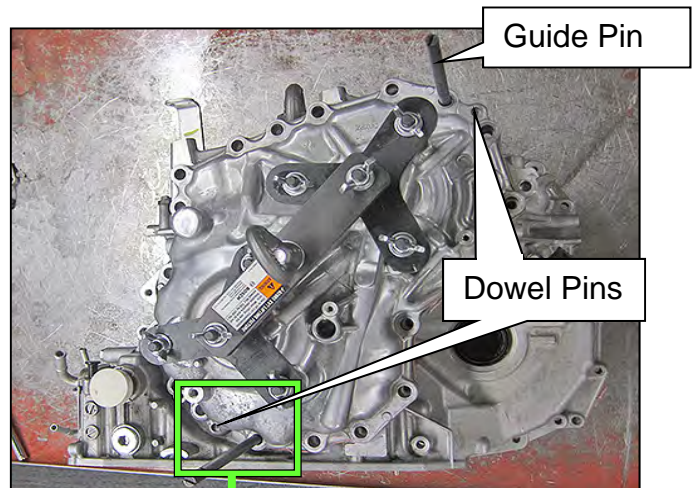

Figure 80
60. Install the two CVT Assembly Guide Pins (J-51959 - Guide Pins) as shown in Figure 80 and Figure 81.